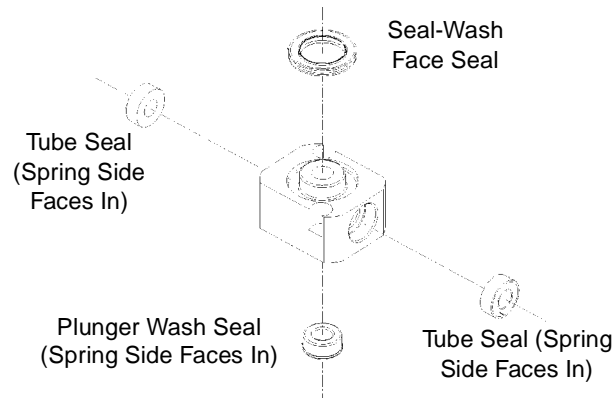
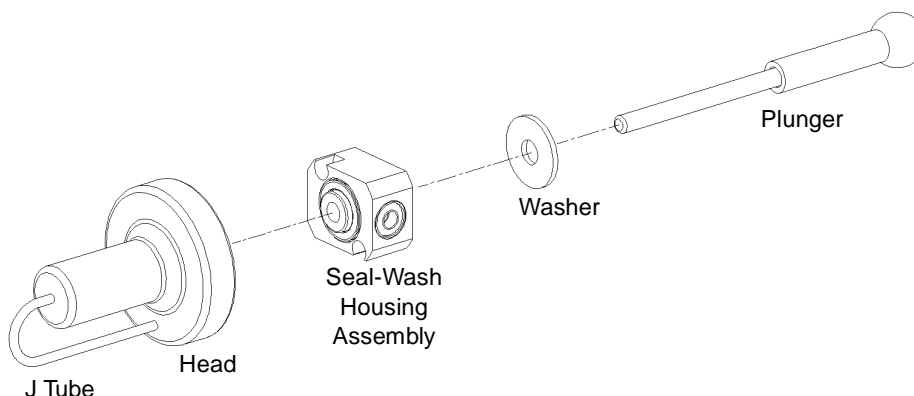

Figure 7-5 Seal-Wash Assembly Seals
Figure 7-6 Plunger, Seal Wash, and Head
4. Follow the instructions in the screen, removing the head, seal-wash assembly, plunger seals, and plunger as one unit (see Figure 7-6).
6. After you replace the seals, follow the instructions on the Head Removal and Replacement screen to reinstall the head, seal-wash assembly, and plunger assemblies. To avoid damaging the tube seals (Figure 7-5) and to properly align the seal-wash tubes with the seal-wash assembly, perform steps a through c below. Also, make sure that the head alignment pin is properly oriented and that the “J” tube is facing down (see Figure 7-6).
2. Use the plastic end of the seal removal tool to remove the plunger wash seal from its seat. Repeat this procedure for each of the tube seals (Figure 7-5).
3. Use the plastic tweezers to remove the seal-wash face seal (Figure 7-5).
5. Place the new plunger-wash seal on the seal-insertion tool with the spring side facing away from the seal-insertion tool (see Figure 7-5). Insert the tip of the tool into the seal opening, then push firmly to install the seal.
7. Reinstall the seal-wash assembly washer onto the seal-wash assembly (Figure 7-6).
8. Slide the seal-wash assembly with the washer onto the plunger, then insert the full assembly onto the head (Figure 7-6).
9. Follow the instructions in the Head Removal and Replacement screen to reinstall the head, seal-wash assembly, and plunger. To avoid damaging the tube seals and to properly align the seal-wash tubes with the seal-wash housing, perform steps a through c below. Also, make sure that the head alignment pin is properly oriented and that the “J” tube is facing down (see Figure 7-6).
2. Inspect the plunger for damage, excessive wear, or solvent residue without separating it from the pump head and seal-wash assembly (Figure 7-6). If the plunger seal has solvent residue:
1. Slide the seal-wash assembly with washer onto the new plunger, then insert the assembly into the head (Figure 7-6).
2. Follow the instructions in the Head Removal and Replacement screen to reinstall the head, seal-wash assembly, and plunger. To avoid damaging the tube seals and to properly align the seal-wash tubes with the seal-wash assembly, refer to steps a through c below. Also, make sure that the head alignment pin is properly oriented and that the “J” tube is facing down (see Figure 7-6).